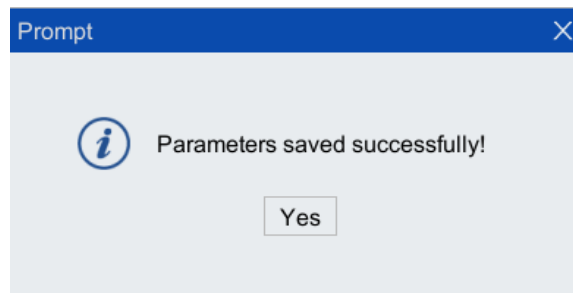

Figure 4-14 Save successful prompt box
Step9. Click <Yes> in the dialog box that pops up successfully to save the parameters. As shown in Figure 4-14.